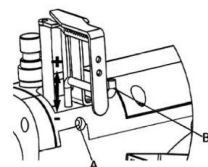

图12 (Fig.12)
- 2.Adjustment.(Fig.12) The position for Needle thread Take-up Lever (B) is adjustable according to thread used. Loosen screw (A) ,move lever (B) up and down for the optimum position .For instance ,when using high extansion thread ,move lever (B) upward to make a bigger needle thread loop for lower to chain easily